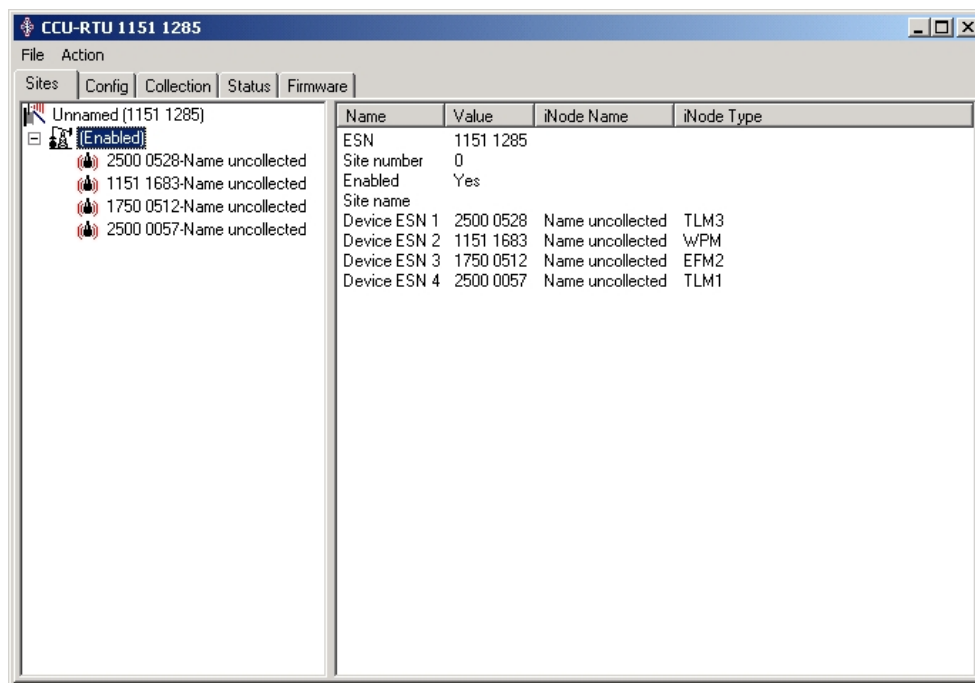

Figure 8. Sites screen post-collection.
- 8) When the LED goes out, tap **Action > Refresh Site**. The device information in the righthand window should now display the iNode type to the right of the iNode Name as shown in Figure 8. You can now configure CCU-RTU data mapping.